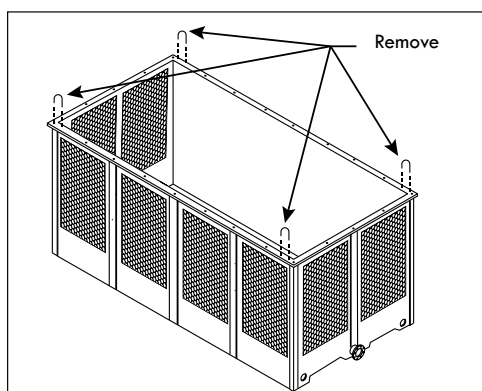

Figure A-56: Removing U-bolts from basin of a Modular Tower (RTM or RTPM)
- I.** Remove the U-bolts located on the flange of basin section #1 before installing the body section #1 (see Figure A-56).